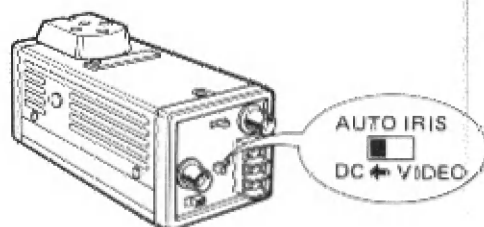

Fig. 1
- (1) Make sure that the Lens Selection Switch on the rear of the camera is set at DC position. (Fig. 1)